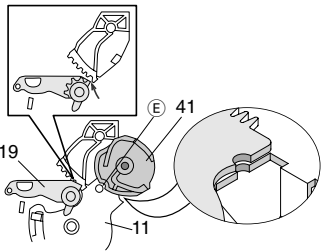
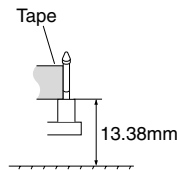

Fig. 23
Fig. 24
- Fit the reverse guide lever (Pos. 19) as shown in Fig. 23 and set it with the height adjustment nut (Pos. 214) to 13.38mm (Fig. 24).
- Check the drive mechanism in "tape unthreaded" mode: the semi-circular groove of the pinch roller drive lever (Pos. 11) must be above the groove of the mechanism chassis (Fig. 23). If necessary, adjust the drive mechanism in this mode, e.g. by turning the loading motor driver (Pos. 47, Fig. 4) by means of a screwdriver.
- Insert the pinch roller cam wheel (Pos. 41, Fig. 23) so that its semicircular cutout is above the round recess of the pinch roller cam wheel E (Pos. 11)